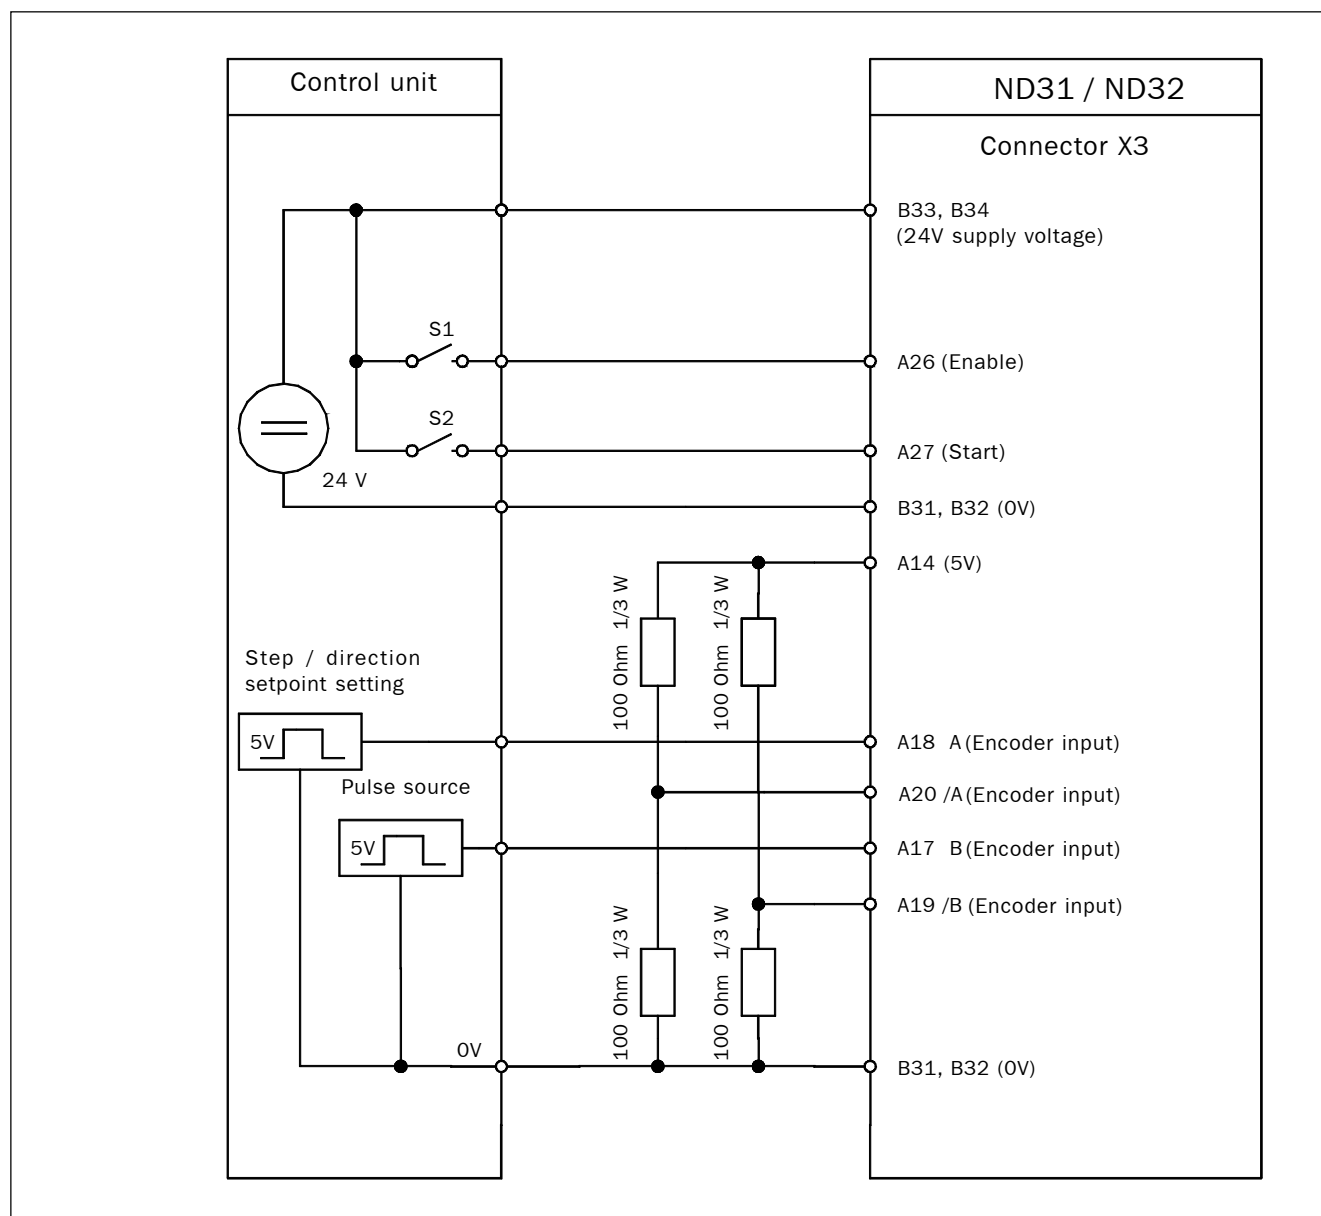

Figure 6.2-1
- As the step/direction input is a differential input, put the two inverting inputs (A19, A20) to half the signal level of 2,5 V over a voltage divider. To do so, you may connect 100-Ohm resistors with 1/3 W to the +5 V output and GND (see Figure 6.2-1).
- Apply the signals according to Figure 6.2-1. The signal amplitudes may not exceed 5 V.